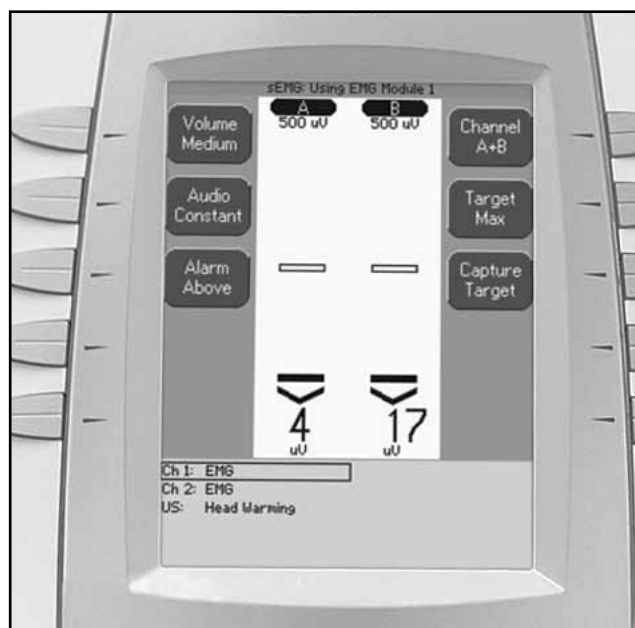

FIGURE 5.33
5. Press the sEMG Button on Home Screen. Channel 1 should read 7 or less. See Figure 5.33.